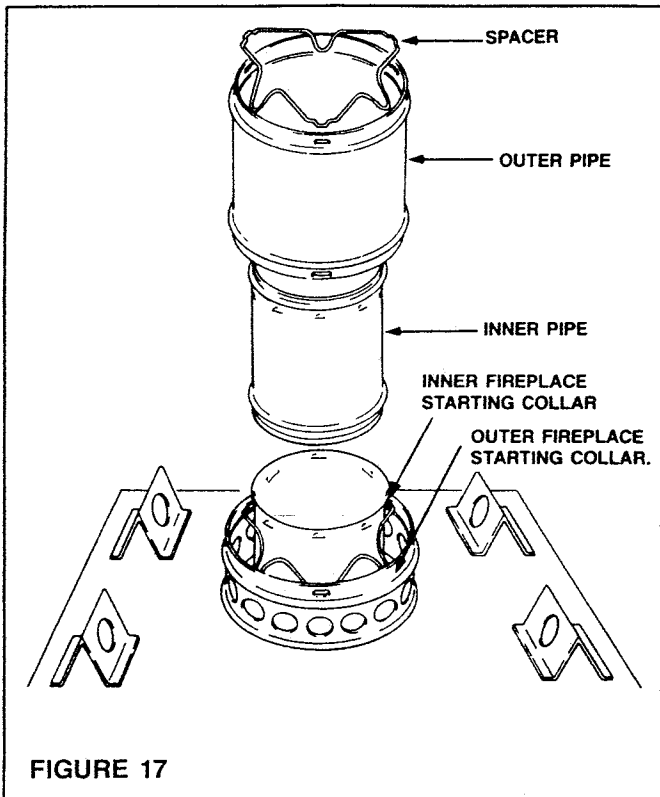

FIGURE 17
**STEP 1:** When starting the chimney directly on the fireplace, install the inner pipe section by fitting the male into the inner fireplace starting collar. Make sure the male end is fully inserted to lock into the lances (Figure 17).